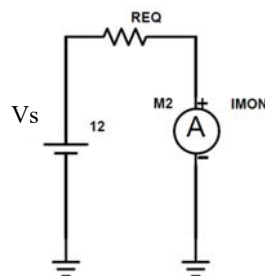

Fig.2
10. Now construct a new circuit with 12 V DC source in series with “ R_{eq} ” as calculated in Step 9 and an ammeter at the output port (see Fig.2). Run “DC Sweep” simulation with “start voltage” = 6 V, “stop voltage” = 12 V, and “step voltage” = 6V. Check the output voltage and output current at $V_s = 6 \text{ V}$, and 12 V.